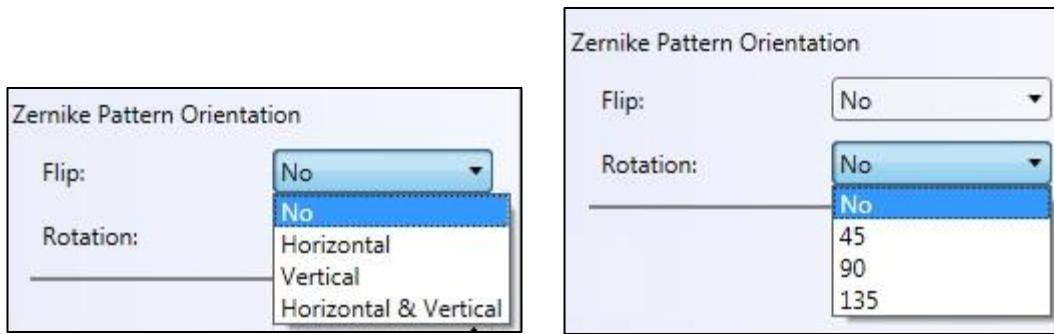

Figure 134 DMP40 or DMH40 Flip and Rotation for Zernike Patterns
As seen in Figure 134, there are four (4) flip options: **No, Horizontal, Vertical** and **Both Horizontal and Vertical**. There are also four (4) options for rotation: **No, 45 degrees, 90 degrees, and 135 degrees**.